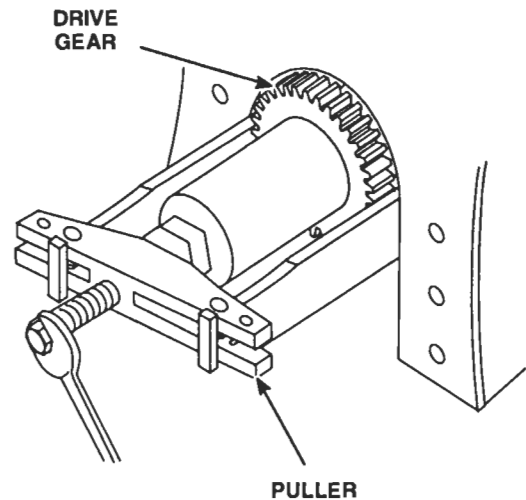

Figure 7. Removing Oil Pump Drive Gear from Crankshaft
3. If required, use puller J 8190 to pull the pump driving gear from the front end of the crankshaft as follows (Figure 7.):